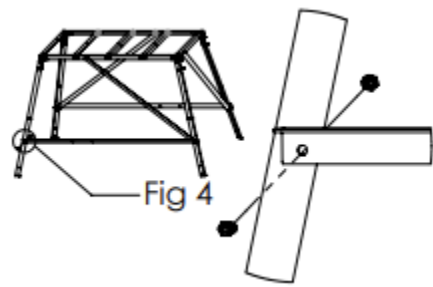

Fig 4
5. Attach the free end of 89 3/8" horizontal brace from step 4 to the opposite leg. Repeat on the opposite side of base. Do not tighten these at this time. (Fig 4)